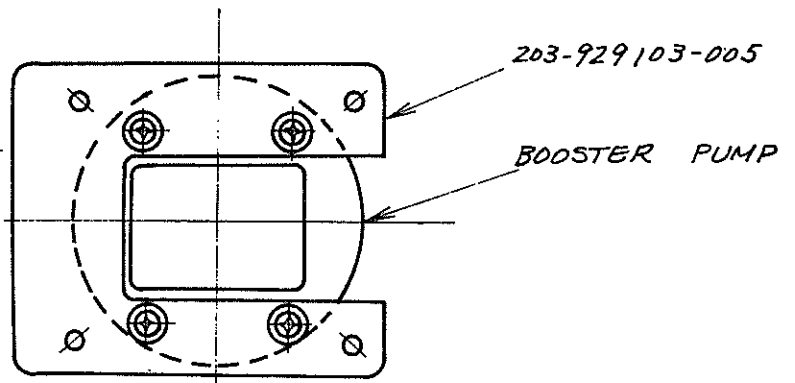

FIG. 4 BOOSTER PUMP LOWER COVER
6. Remove cover, P/N 203-929103-005, as shown in figure 4.